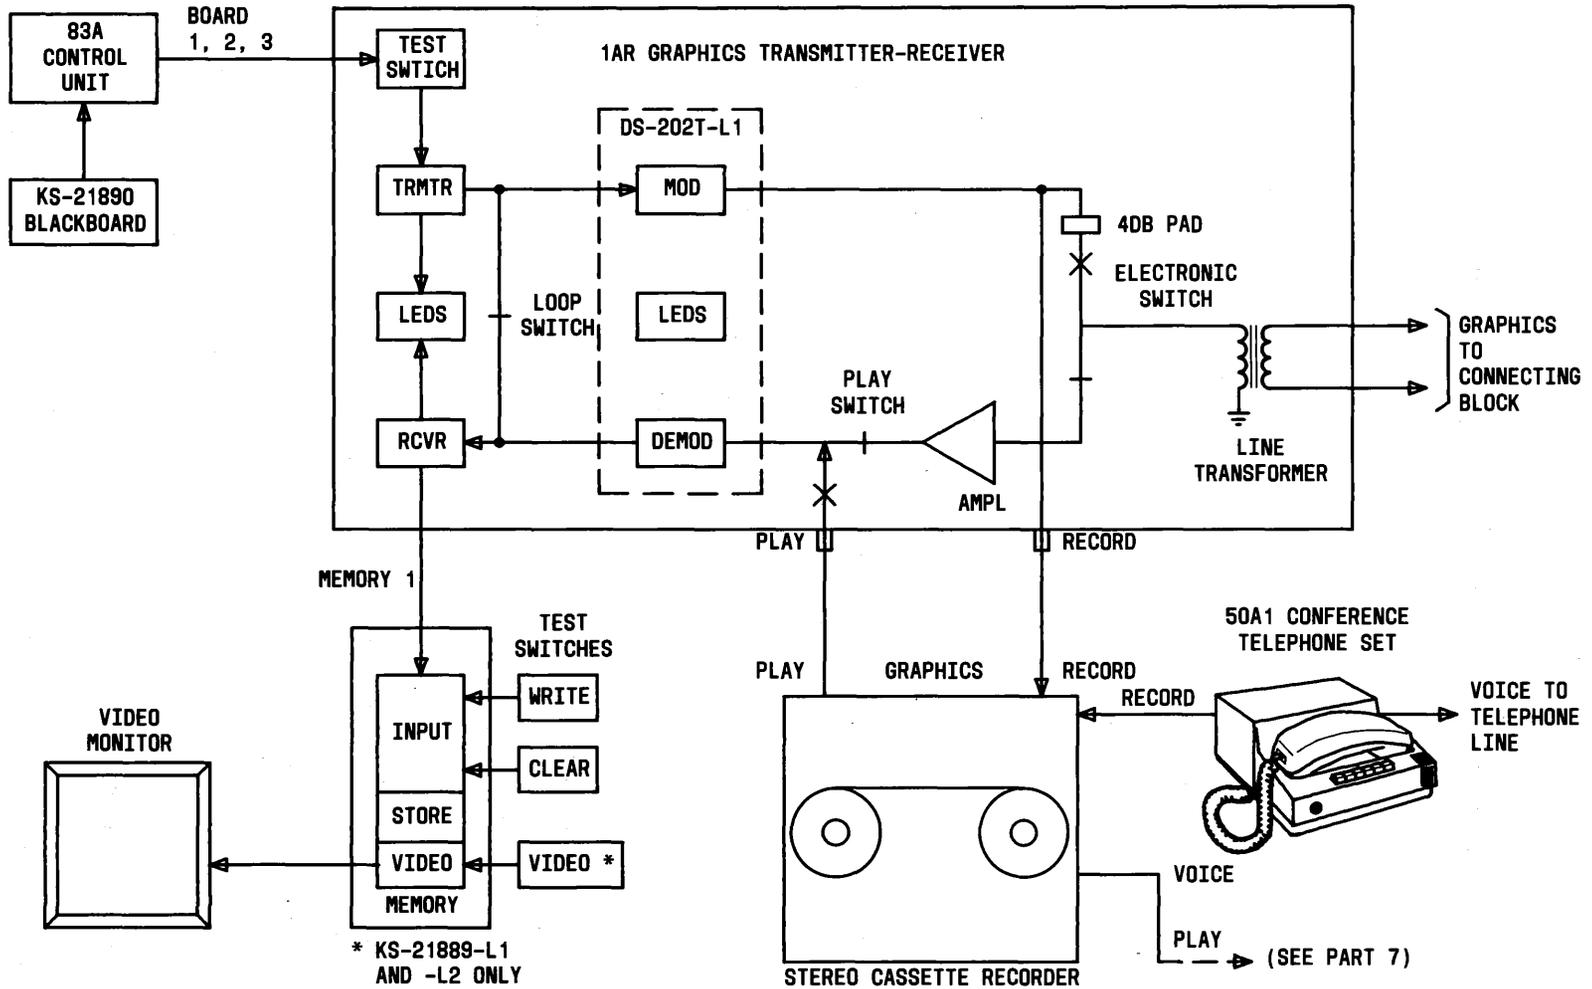

Fig. 22—Single Send-Receive Station—Functional Block Diagram
4.01 The station described in this part is a single send-receive station, as shown in Fig. 22. Other stations operate in essentially the same man-
4.08 Analog signals are fed from the blackboard via the control unit to the transmitter portion of the transmitter-receiver (Fig. 22), where the signal is converted to digital form. Clear and erase signals are also processed and incorporated into the digital data stream. Which one of up to three blackboards is also encoded and sent to the modulator portion of DS 202T.